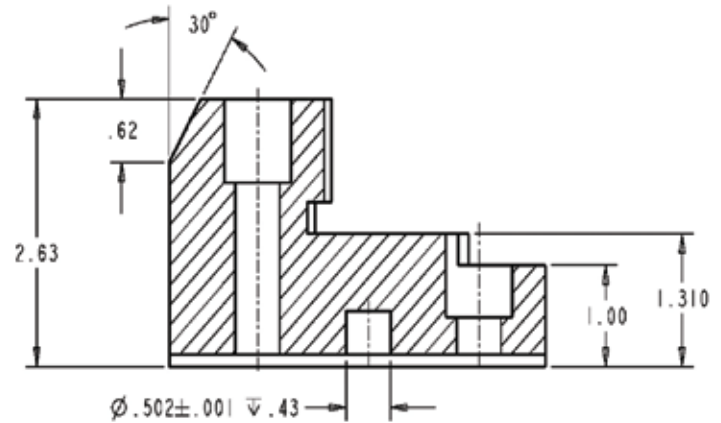

Figure 11-13a: Sectional view of front
Step 8: Draw the orthographic projection of the part. See Figures 11-13a through 11-13c for the dimensions for which you can construct the part.